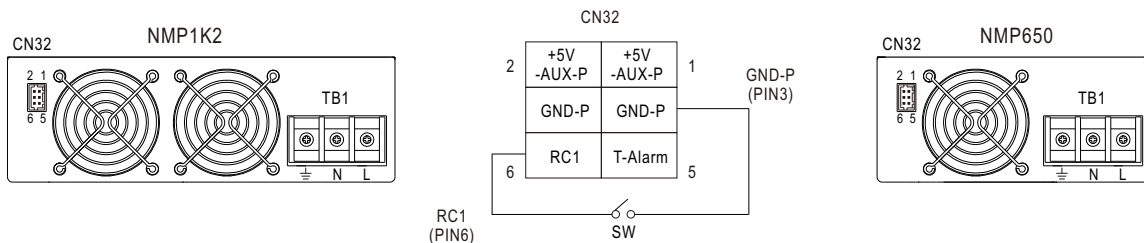

Figure 5-4
- ⊙ Figure 5-4 shows RC1 (CN32 PIN6) and GND-P (CN32 PIN3) connection diagram.